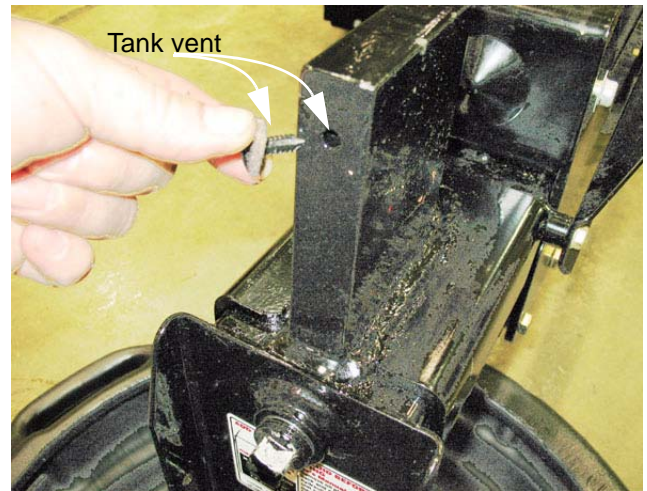

Figure 3.12
5.6. Sealed tank vent See Figure 3.12.